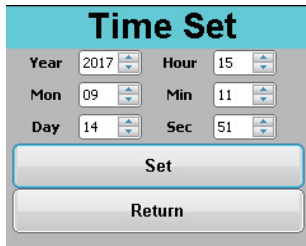

Figure 4-4
- In the [Setup] menu, select the [Time Set], as Figure 4-4 below.